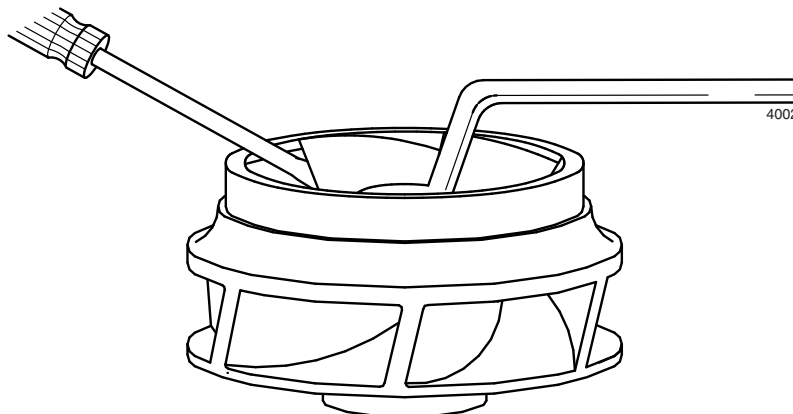

Figure 7: Loosening the cap nut.
- 2 Block the impeller (0120) against rotating, see figure 7.